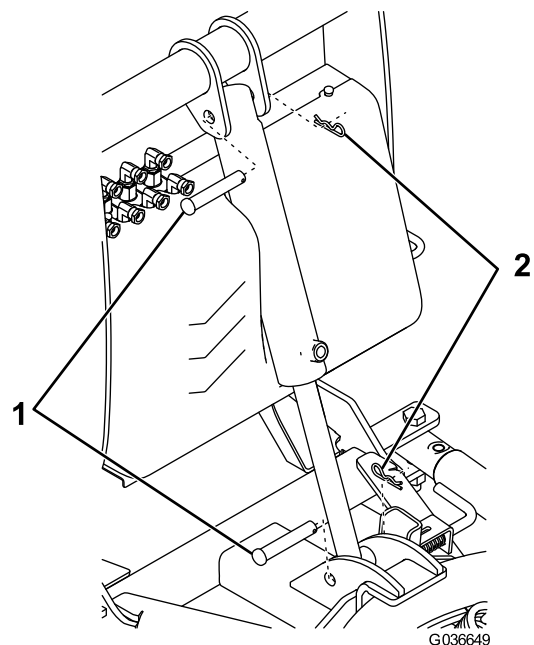

Figure 8
- Secure the rod end of the lift cylinder to the push-frame assembly using a clevis pin (5/8 inch) and hairpin cotter (Figure 8).
- Secure the free end of the lift cylinder to the coupler tower using a clevis pin and hairpin cotter (Figure 8).